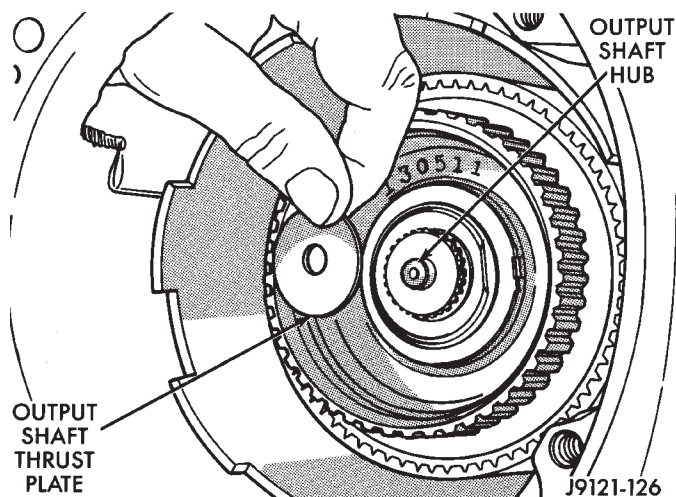

Fig. 141 Installing Output Shaft Thrust Plate
(1) Install output shaft thrust plate on shaft hub (Fig. 141). Use petroleum jelly to hold thrust plate in place.